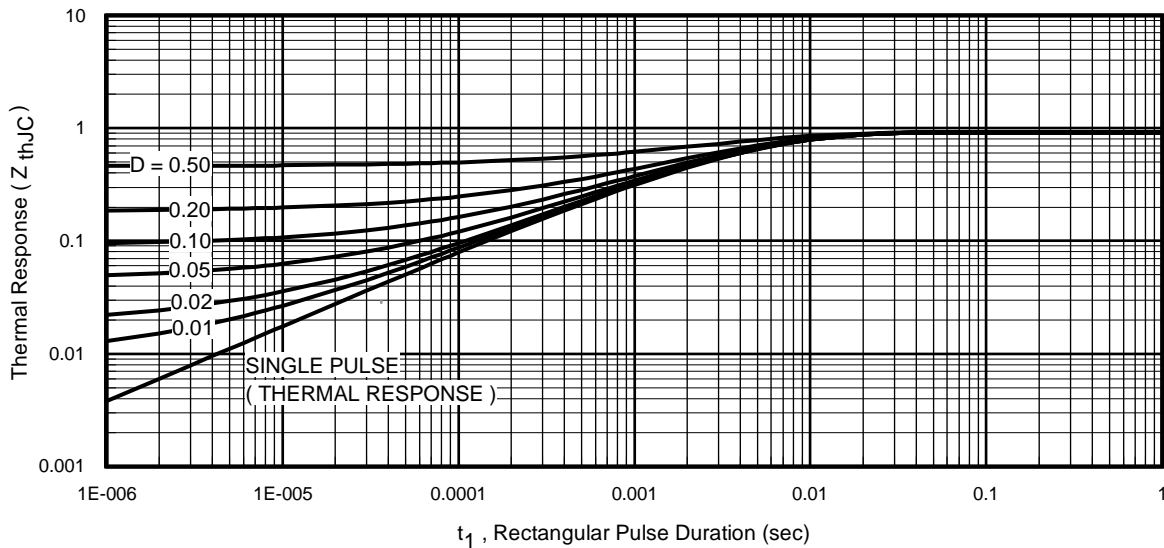
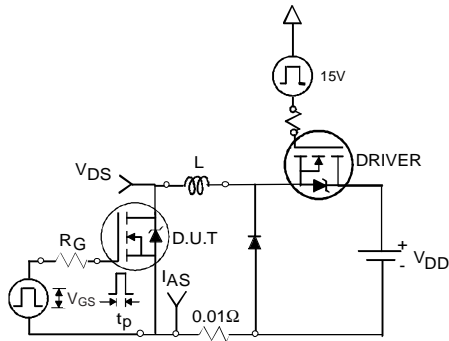

Fig 11. Maximum Effective Transient Thermal Impedance, Junction-to-Case
Fig 12a. Unclamped Inductive Test Circuit
- ① Repetitive rating; pulse width limited by max. junction temperature. (See fig. 11).
- ② Limited by T_{Jmax}, starting T_J = 25°C, L = 0.27mH, R_G = 25Ω, I_{AS} = 35A, V_{GS} = 10V. Part not recommended for use above this value.
- ③ I_{SD} ≤ 35A, di/dt ≤ 380A/μs, V_{DD} ≤ V_{(BR)DSS}, T_J ≤ 175°C.
- ④ Pulse width ≤ 1.0ms; duty cycle ≤ 2%.
- ⑤ C_{oss eff.} is a fixed capacitance that gives the same charging time as C_{oss} while V_{DS} is rising from 0 to 80% V_{DSS}.
- ⑥ Limited by T_{Jmax}, see Fig.12a, 12b, 15, 16 for typical repetitive avalanche performance.
- ⑦ This value determined from sample failure population. 100% tested to this value in production.
- ⑧ This is applied to D²Pak, when mounted on 1" square PCB (FR-4 or G-10 Material). For recommended footprint and soldering techniques refer to application note #AN-994.
3. Equation below based on circuit and waveforms shown in Figures 12a, 12b.
$Z_{thJC}(D, t_{av})$ = Transient thermal resistance, see figure 11)